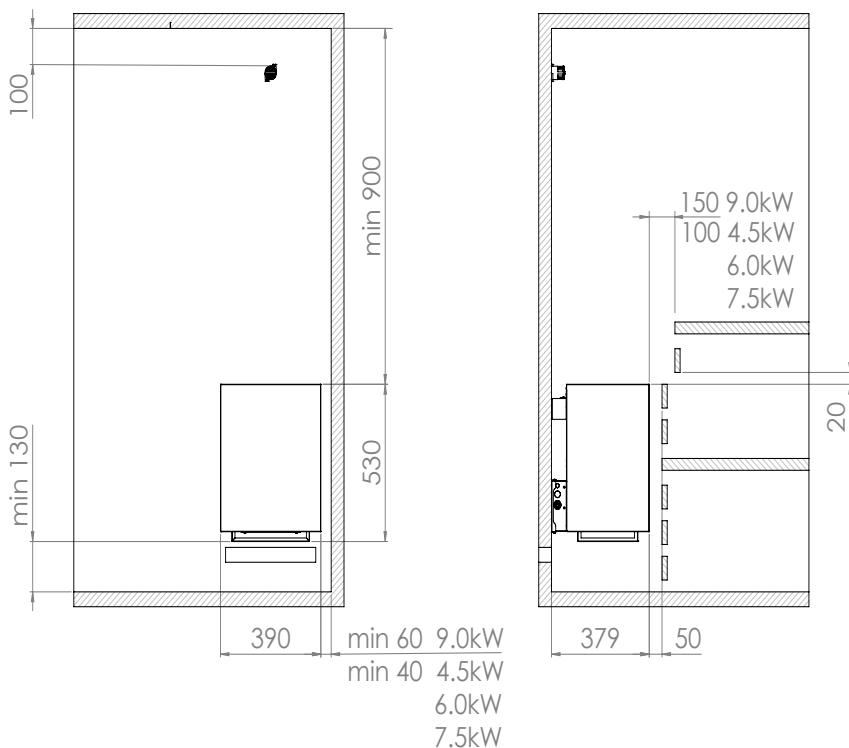

Figure 1. Safety distances
- Minimum protective distances to combustible material are shown in figure (Fig. 1. Safety distances).
- If a guardrail is installed around the sauna heater, the safety distances given in figure (Fig. 1. Safety distances) or in the installation instructions for the guardrail must be observed.